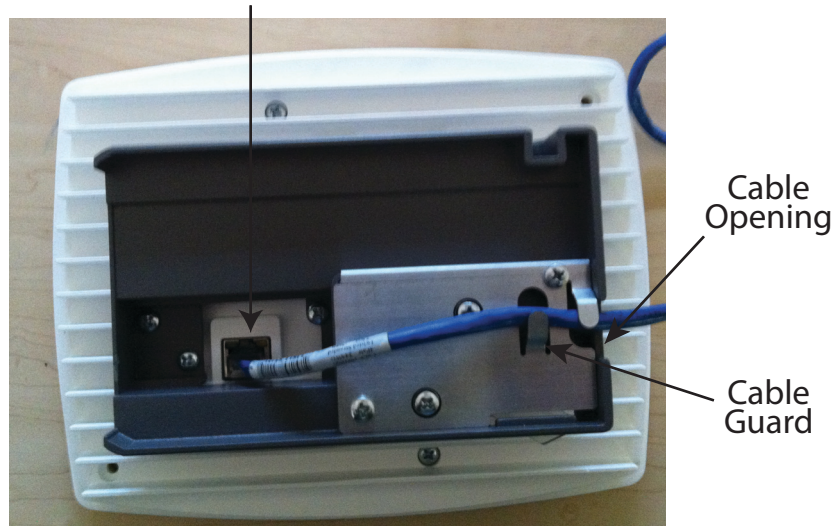

Figure 10 Route and Terminate the Cable
- Step 2** Route the Ethernet cable through the pedestal base cable opening and through the cable guards. Insert the RJ-45 connector into the Ethernet port as shown in Figure 10: